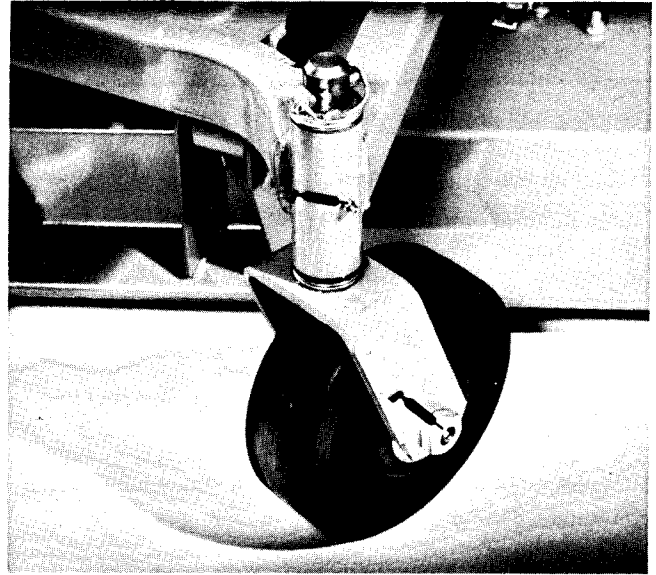

Figure 8
If the machine is operated under normal conditions lubricate the castor wheel bearings and castor spindle bearings after every 8 hours of operation or daily (Fig. 8). Use No. 2 general purpose lithium base or molybdenum base grease.
6. Lubricate the castor wheel bearing through the grease fitting located on either the axle or wheel hub, using No. 2 general purpose grease (Fig. 8).